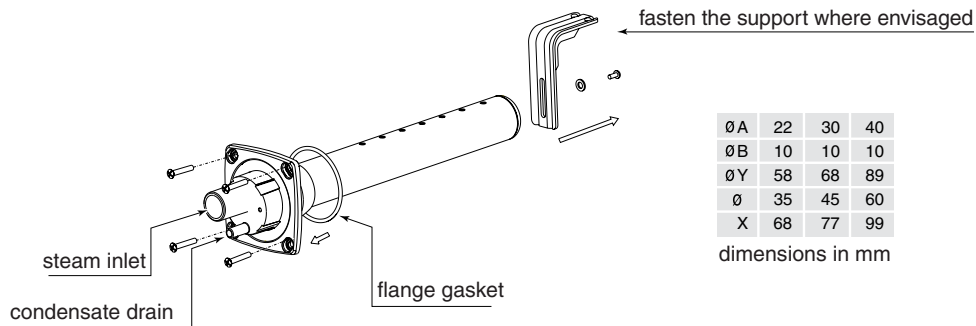

Fig. 5.3.1
The humidifier may be used for small ducts with a static pressure of no greater than 500 Pa. For steam distribution into air ducts, the steam distributor must be sized according to the output of the humidifier and the cross-section of the ducting. For this purpose, STULZ supplies two ranges of linear distributors: one in aluminium, with plastic ends. Figures 5.3.1 provide the dimensions of the STULZ distributors, while table 5.3.1 specifies the minimum number and the model of the distributor recommended for the type of humidifier used.
- making a series of holes in the wall of the duct according to the drilling template indicated in Fig. 5.3.1 or 5.3.2;